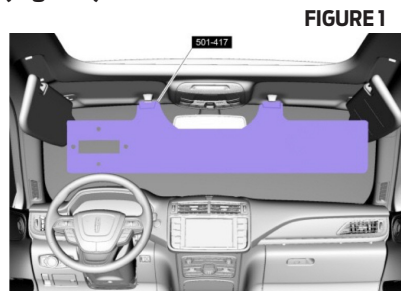

FIGURE 1
5. Install the HUD eye box inside the vehicle. The HUD eye box should be placed on the dashboard directly behind the windshield (similar to how a sun visor would be placed) (**Figure 1**).